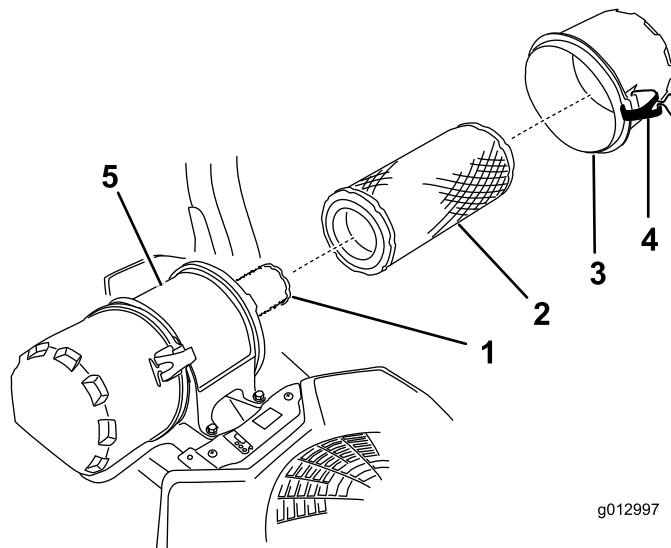

Figure 43
6. Release the latches on the air cleaner and pull the air cleaner cover off the air cleaner body (Figure 43).
8. Gently slide the primary filter out of the air cleaner body (Figure 43).
2. If the inner filter is being replaced, carefully slide it into the filter body (Figure 43).
3. Carefully slide the primary filter over the inner filter (Figure 43).
4. Install the air cleaner cover and secure the latches (Figure 43).